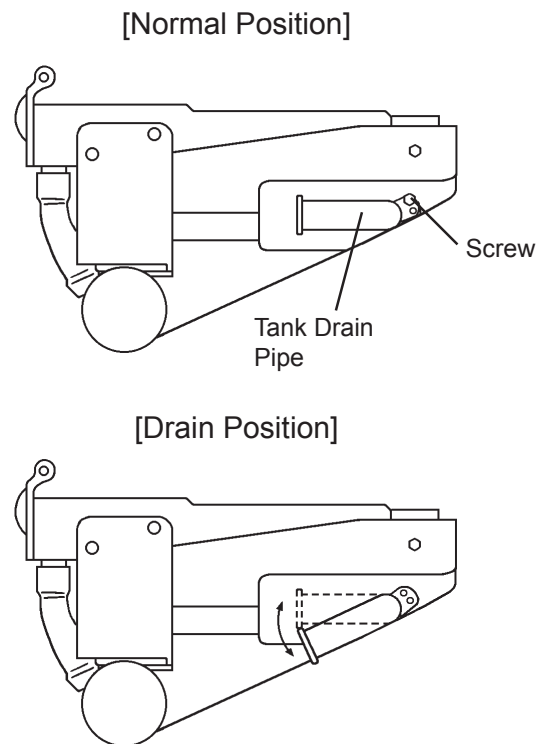

Fig. 5
- 5) Remove the screw, then move the water tank drain pipe to the drain position. See Fig. 5. Use the screw to secure the water tank drain pipe in the drain position.
- 20) Remove the screw, then move the water tank drain pipe to the normal position. See Fig. 5. Use the screw to secure the water tank drain pipe in the normal position.
- 3) Remove the screw, and move the tank drain pipe to the drain position. See Fig. 5.
8) Move the tank drain pipe to the normal position, and secure it with the screw. See Fig. 5.